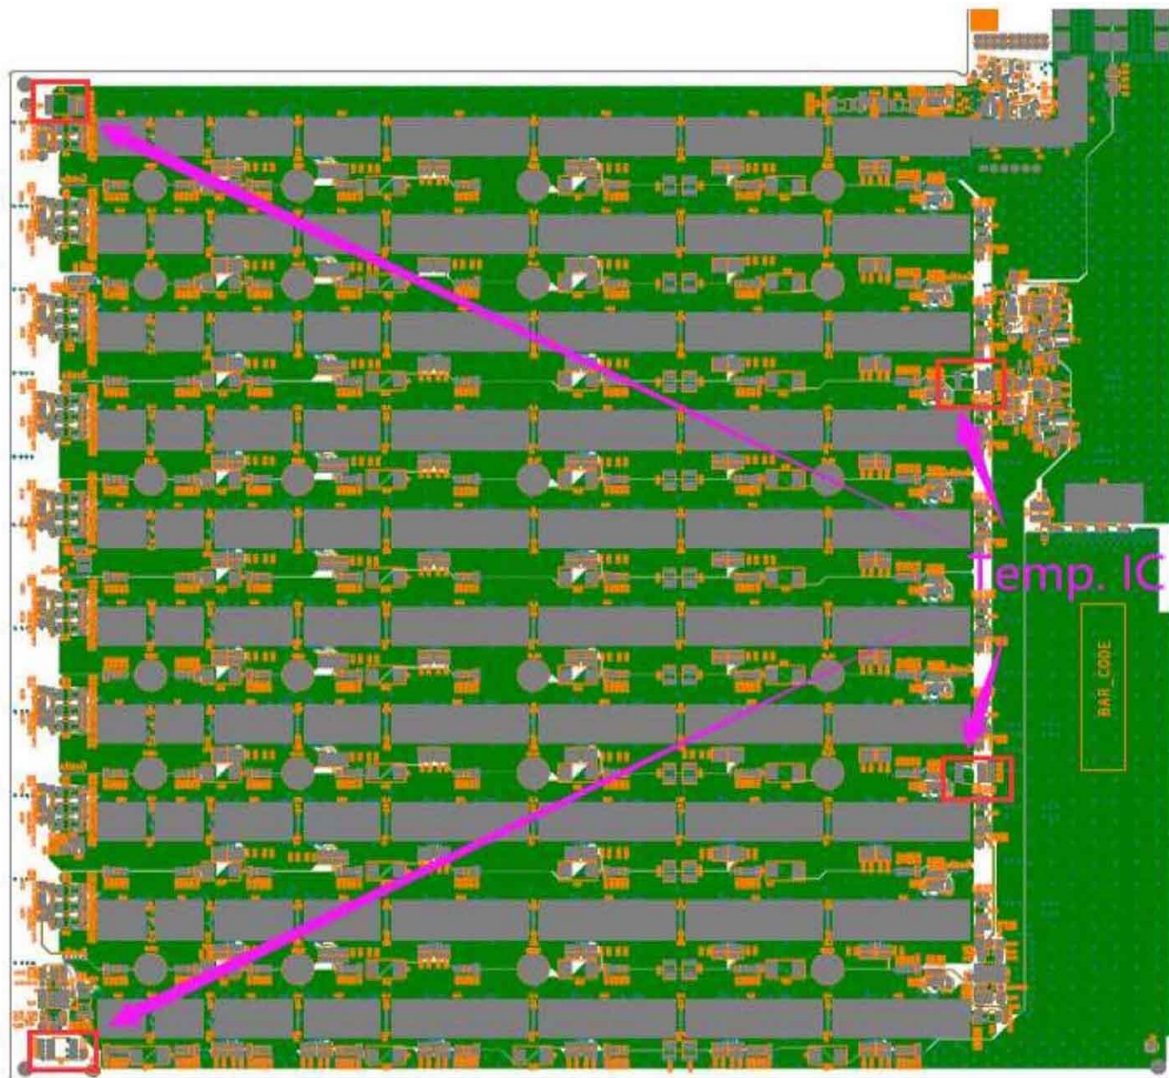

Figure 5-8
- 2) Check whether the four temperature sensors U7, R78, R80, R81; U8, R83, R84, R88; U9, R92, R94, R95; U11, R96~R98, and the matching resistance welding are abnormal, the location of the temperature sensor is shown in Figure 5-8, the temperature sensor is all located on the back of the PCB, the resistance is located on the front and back of the PCB, and whether the temperature-sensitive 3.3V power supply is normal; Check the welding quality of the heat-sensitive chip and the small heat sink. The deformation of